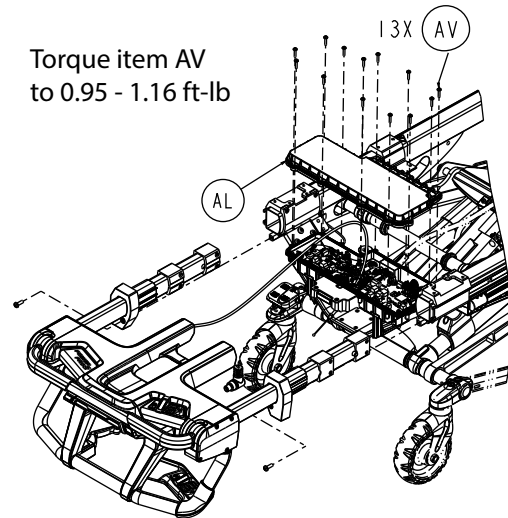

Figure 78 – Remove the FEIB enclosure screws
9. Using a T20 Torx driver, remove the thirteen round washer head tapping screws (AV) that secure the top FEIB enclosure (AL) to the bottom FEIB enclosure (Figure 78). Save the screws.